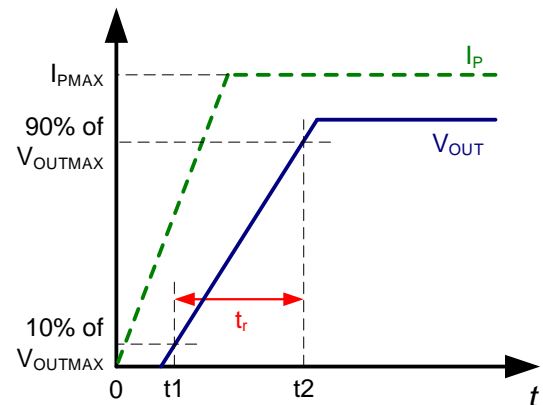

Figure 7: Rising Time (t_R)
2. $t2$: The sensor's V_{OUT} reaches 90% of its full-scale value (see Figure 7).